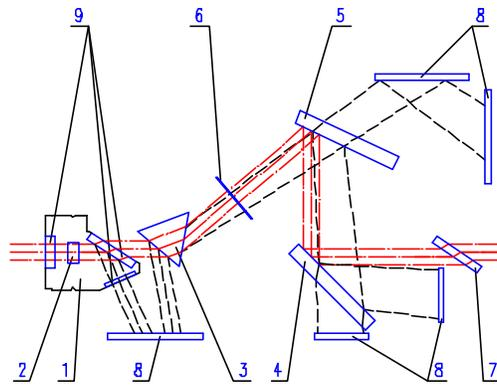
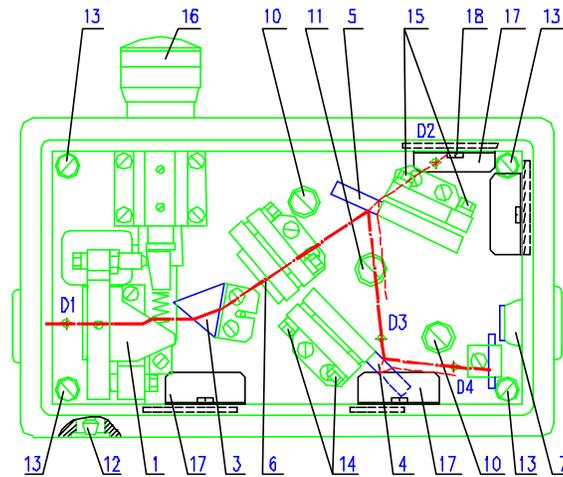

Fig.1. LG105 Optical Schematic
Fig.2. LG105 Top View
Figure 1, below, shows the optical layout of the LG105. The view from above, with cover removed, is presented in Figure 2. The same components are shown in the same positions on both Figures.
Second and third harmonic radiation is directed through BBO Crystal 2, which is located inside Cell 1 (refer to Fig.1). Dispersion Prism 3 divides the harmonics into three beams. Mirrors 5 and 4 reflect the fifth harmonic radiation to separate it from the second and third. Residual second and third harmonics, unconverted in the BBO crystal, are transmitted by Mirrors 4 and 5 into Dampers 8. Phase-Rotator 6 converts 213.2 nm radiation with horizontal polarization into vertically polarized radiation, for better harmonic separation.
phase-matched. To adjust the BBO Crystal to phase synchronism, use the Fine Adjustment Screw 16 (Fig.2) on the LG105 laser side panel.
The Fifth Harmonic Generator can produce ozone (O_3) in the laser beam's pathway. To ensure safe working conditions, take measures to pipe the laser beam and blow nitrogen (N_2) through the whole laser cavity. To connect a nitrogen tank to the unit, a Connecting Pipe is provided (Pos. 12, Fig. 2).
3. Remove the caps from the Input and Output Windows. Place Apertures D1 and D3 into the unit, in accordance with Fig. 2.
4. Position the LG105 in such a manner that the pump beam passes through Aperture D1 and the BBO Crystal's center (Verify this using a screen made from white paper, placing it behind the cell). The pump beam reflected by Mirror 5 (marked bold on Fig. 2) should pass through Aperture D3.